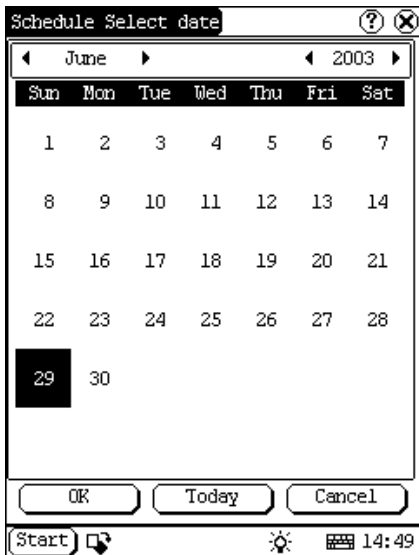

Figure 5-28
- 3) Click the [▶] icon to the right of the month or year to select the next month or year. (See Figure 5-28)